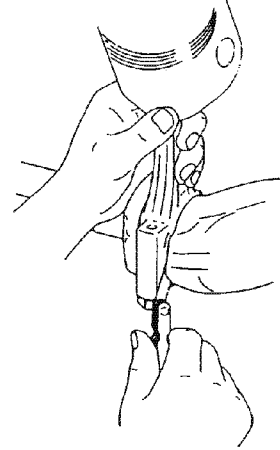

Figure 6-54
1. Using a feeler gauge, measure the connecting rod side clearance as shown (Figure 6-54). See *Connecting Rod* on page 6-14 for the standard limit. If the measurement is out of specification, replace the crankshaft, connecting rod, or both.